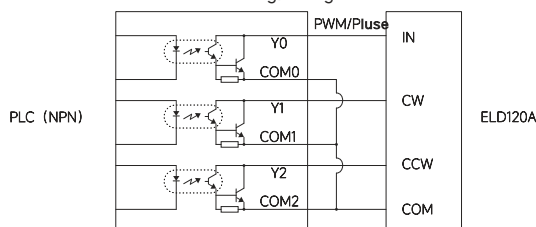

Figure1
- PWM duty cycle: The speed regulation can be controlled by outputting PWM signals through PLC and other upper computers (NPN sink type)---Figure 1.
- Pulse frequency: the speed regulation (1HZ=1RPM) can be controlled by outputting a frequency signal from a PLC (NPN drain type)---Figure 1.